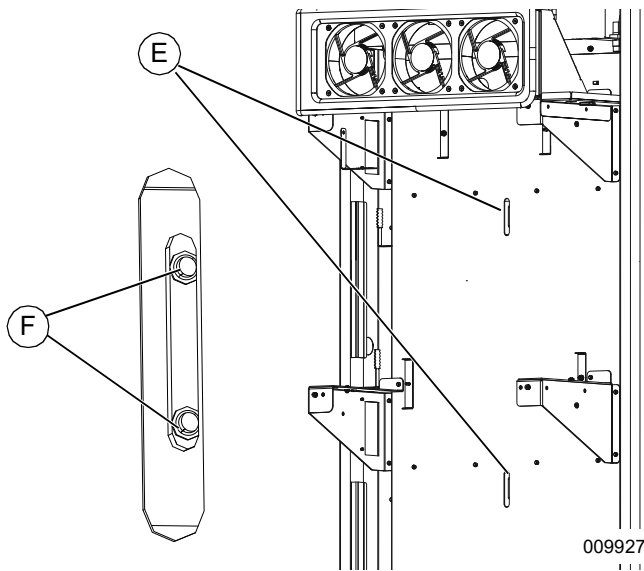

Figure 4-10. Mounting Bracket (2 of 2)
2. See **Figure 4-10**. Align body slots (E) with wall bracket holes (F).